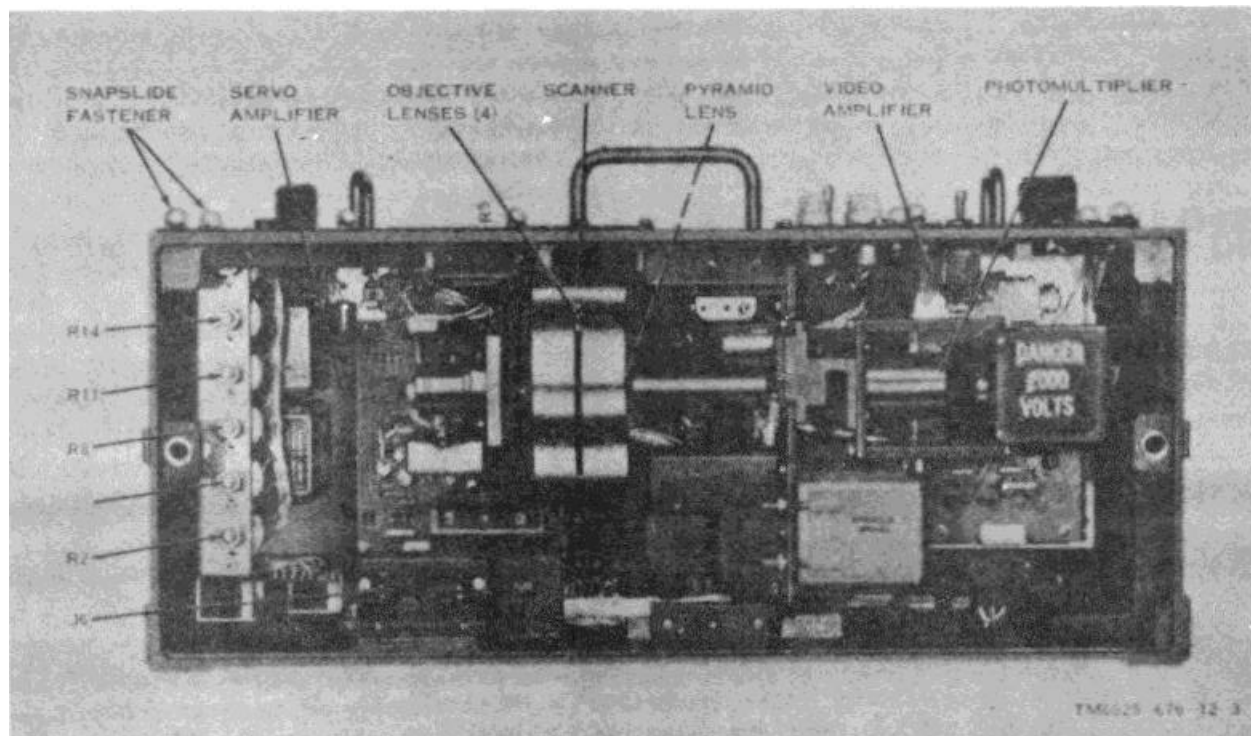

Figure 1-3. Generator, Video Signal SG-686/AAM-26, subassemblies.
a. *Generator, Video Signal SG-686/AAM-26* (fig. 1-3). The *main frame* consists of the following subassemblies: servoamplifier, scanner, video amplifier, and photomultiplier. All equipment operating controls and indicators are located on top of the main frame. Input power is applied through connector J1 (fig. 3-1). Video and synchronizing output signals are fed through connector J2 to the infrared receiver. Video is applied through connector J3 to the demodulator. Power and control circuits to the magazine are provided through connector J6.